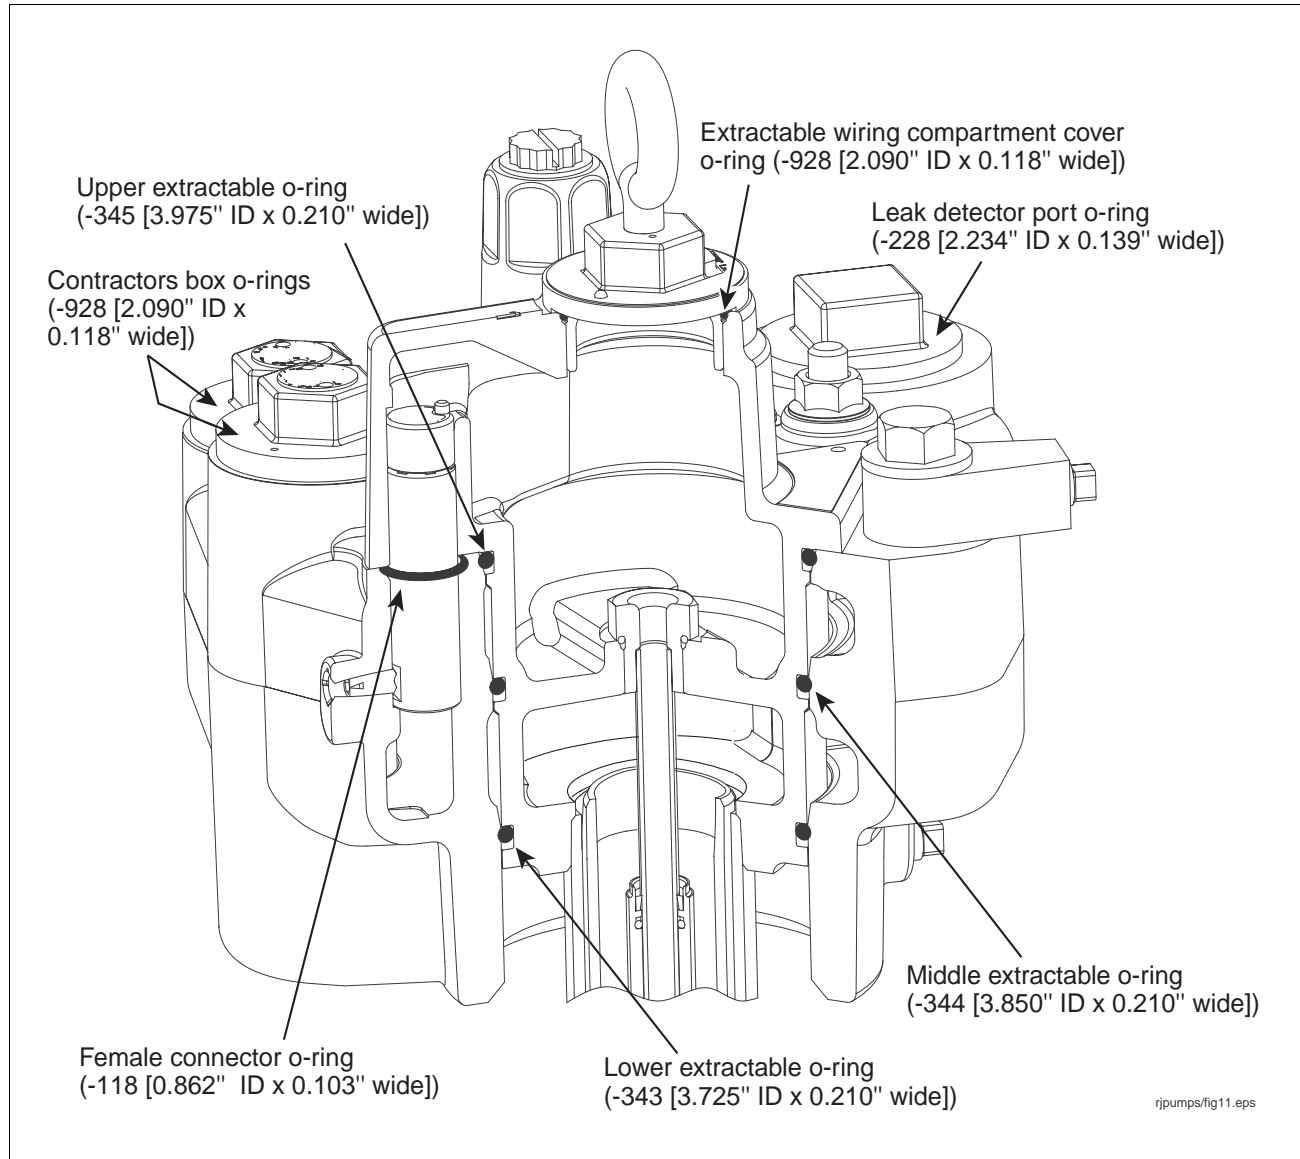

Figure 32. Locating packer and manifold o-rings
9. Get the three extractable o-ring seals ( 3.975" ID x 0.210" wide [upper], 3.850" ID x 0.210" wide [middle], and 3.725" x 0.210" wide [lower]) from the hardware/seal kit. The three o-rings are very close in size so take extra care to distinguish each one before replacing them in the extractable. Lubricate each o-ring with petroleum jelly and then install them in their assigned grooves in the extractable - see Figure 32.
10. Remove the manifold's female connector's o-ring - see Figure 32. Get a 0.862" ID x 0.103" wide o-ring from the kit and lubricate it with petroleum jelly. Slide the o-ring over the female connector and push it down into its groove.
17. Get the three extractable o-ring seals ( 3.975" ID x 0.210" wide [upper], 3.850" ID x 0.210" wide [middle], and 3.725" x 0.210" wide [lower]) from the hardware/seal kit. The three o-rings are very close in size so take extra care to distinguish each one before replacing them in the extractable. Lubricate each o-ring with petroleum jelly and then install them in their assigned grooves in the extractable - see Figure 32 on page 33.
18. Remove the manifold's female connector's o-ring - see Figure 32 on page 33. Get a 0.862" ID x 0.103" wide o-ring from the kit and lubricate it with petroleum jelly. Slide the o-ring over the female connector and push it down into its groove.